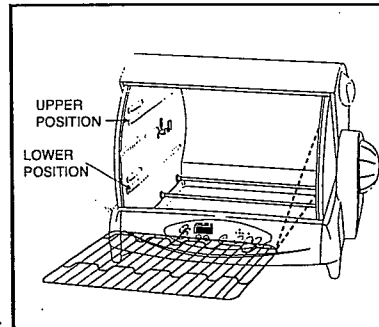

Figure 10
2. The Wire Rack can be used in the **upper or lower** positions. See Figure 10.